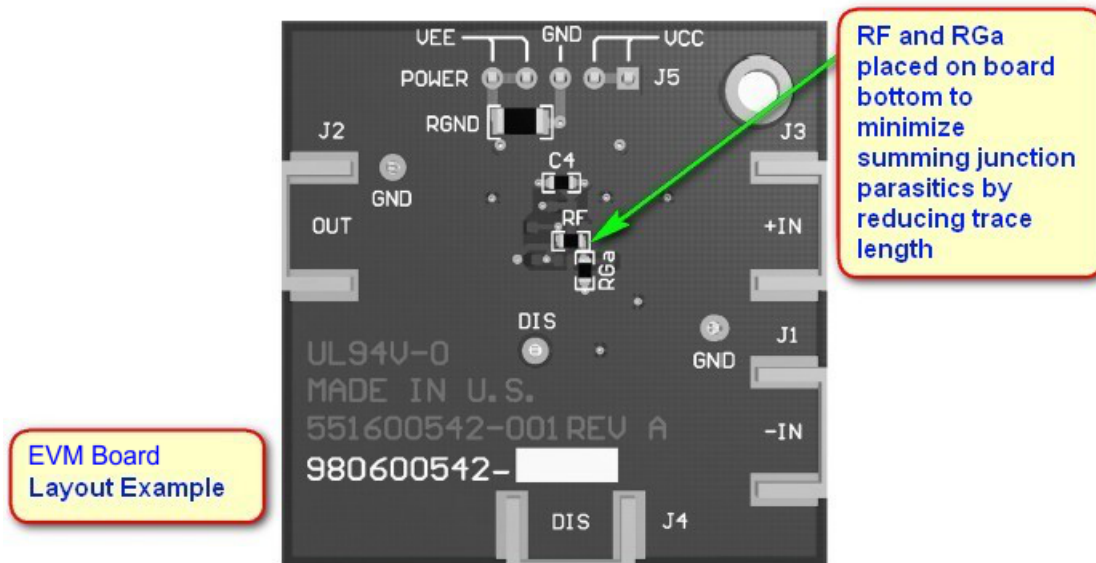

Figure 29. LMH6702-MIL Evaluation Board Layer 2
- The input summing junction is very sensitive to parasitic capacitance. Connect any R_f and R_g elements into the summing junction with minimal trace length to the device pin side of the resistor, as shown in Figure 29. The other side of these elements can have more trace length if needed to the source or to ground.